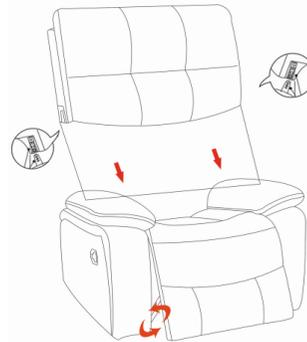

fig.2
1. Carefully align connecting hooks & holes into position and lock them to secure the mechanism. See fig.2
3. Engage the Metal Locks and push fit. You should hear them lock into position. See fig. 2
4. Paste the velcro on the flag of the Back Cushions onto the back of Seat Cushions. See fig. 2
5. Insert the armrest pieces into the armrest, See fig. 2